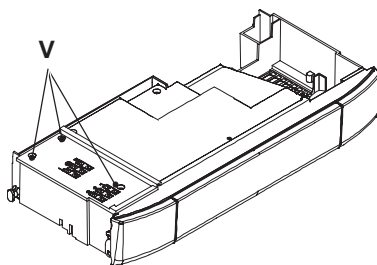

Fig. 6.14
- Loosen the screws V and remove the service panel (Fig. 6.14).